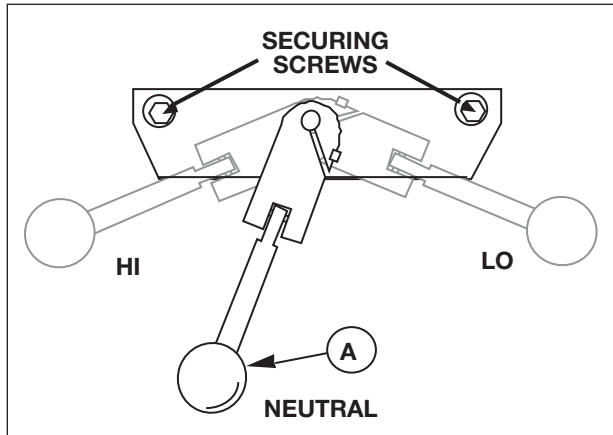

Figure 1-4: Hi-Neutral-Lo Lever
1.2 1 SPEED RANGE SELECTOR (HI-NEUTRAL-LO LEVER) (Figure 1-4)
At the lower right side of the spindle housing is the **Hi-Neutral-Lo Lever** (Figure 1-4). This lever is used to set the speed range for the spindle motor. It has three positions for the spindle motor gearing: LOW, NEUTRAL, and HIGH. Neutral is provided to permit free spindle rotation for indicating and set-up work. Be certain to check the position of this lever when starting up the EZTRAK.